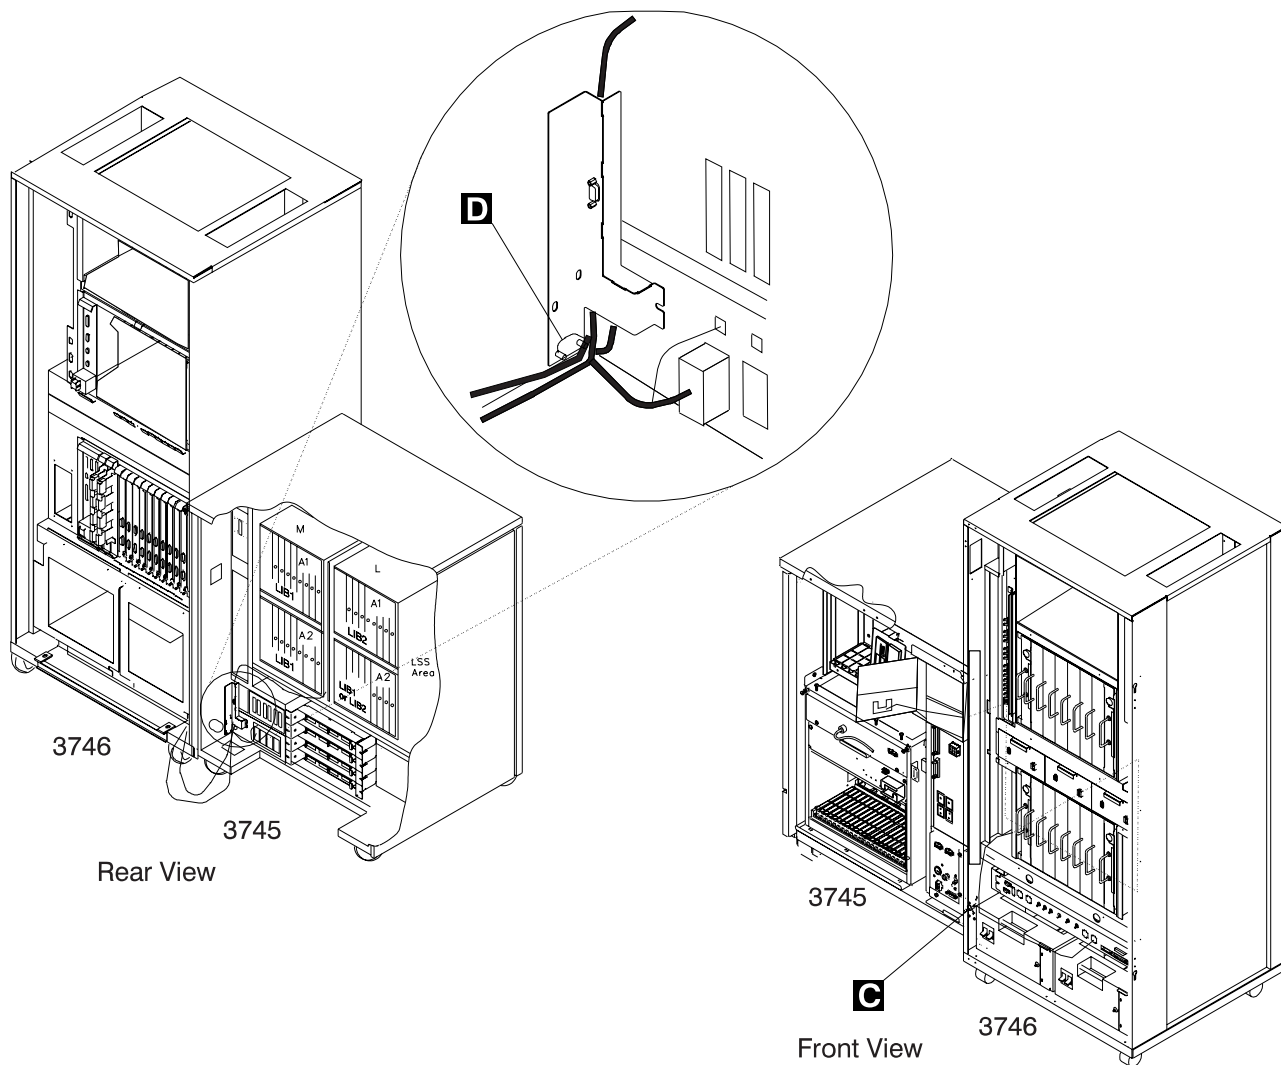

Figure 0-1. 3745 Model 17A/3746-900 Power Control Cable Routing
- To the 3745 Model 17A via the power control cable (see Figure 0-1 on page xxv).